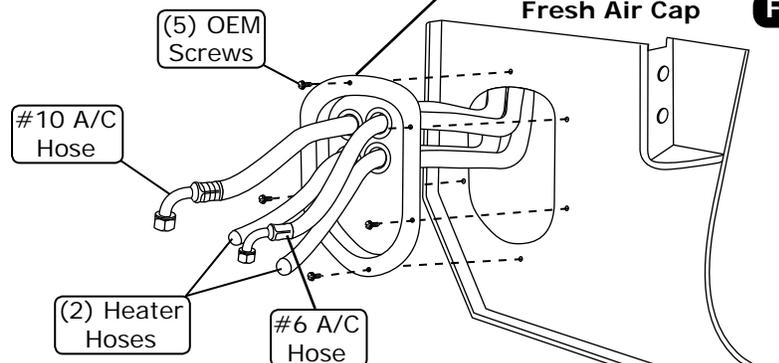

Figure 8b
4. Secure the kick panel fresh air cap using the OEM screws as shown in Figure 8b, below.